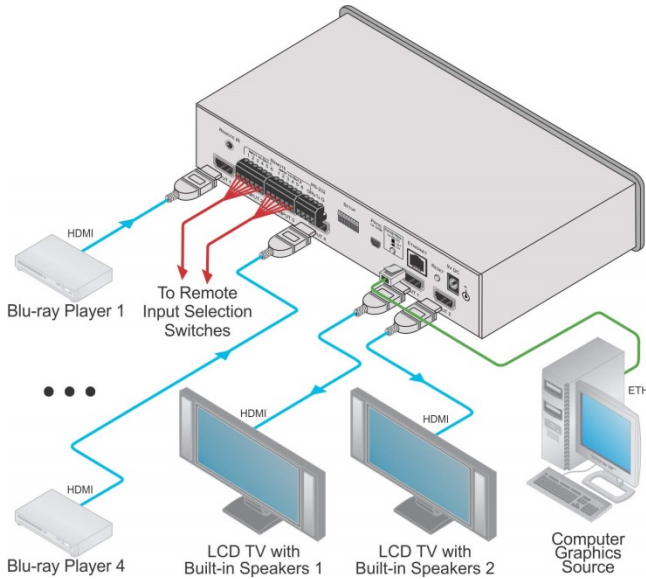

Figure 3: Connecting the VS-42UHD 4x2 HDMI Matrix Switcher
To connect the **VS-42UHD**, as illustrated in the example in Figure 3, do the following:
4. Connect the power adapter to the device and plug the power adapter into the mains electricity (not shown in Figure 3).